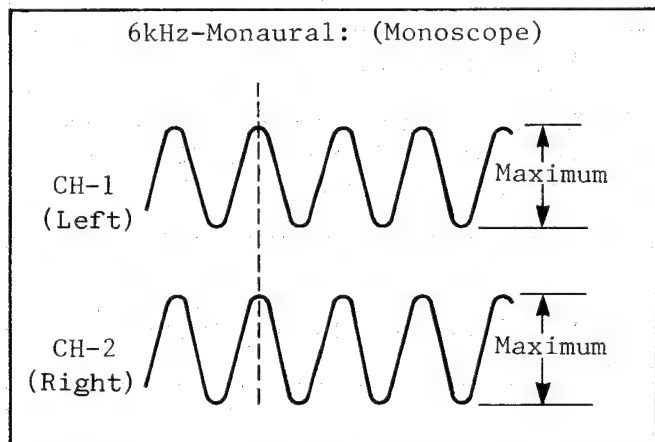

Fig. M27-3 Height and Azimuth Adjustment of A/C Head
- Then, adjust the screw (B) so that the phases of both channels match as shown in Fig. M27-3.